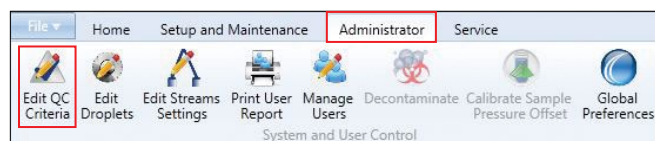

Fig. 5. ProSort software window with Administrator > Edit QC Criteria selected.
2. Select **Administrator > Edit QC Criteria** (Figure 5).